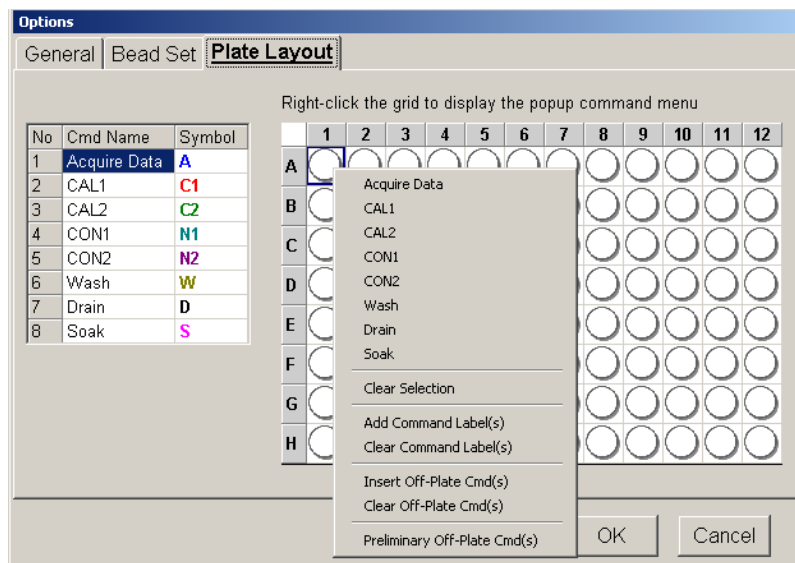

Figure 5-59 Plate Layout Tab Command Menu
- Select plate commands. Right-click over the selected wells to display the Command menu. See Figure 5-59. Select the desired command. The associated command symbol appears in the designated plate well. To make a correction, select the wells (selected wells are blue), right-click over the selected wells to display the Command menu, and then click **Clear Selection** from the list. Table 5-8 (following) lists Plate Layout selection shortcuts.